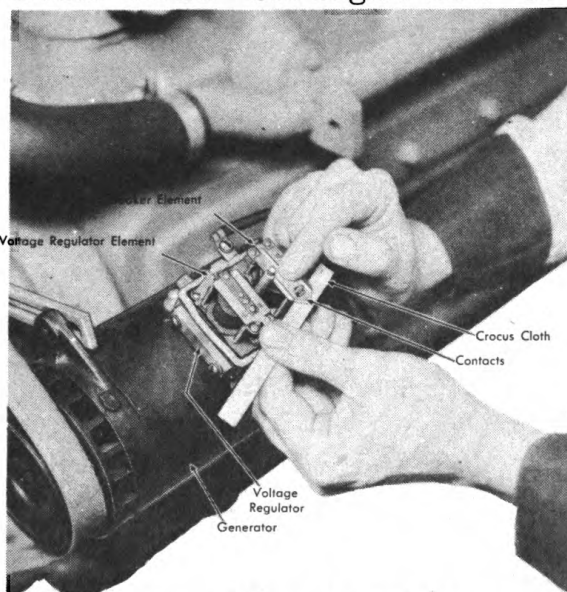

Figure 233. Cleaning Regulator Contacts with Crocus Cloth.
A. Remove the regulator cover and inspect the regulator visually for: (1) evidence of burning or abnormal high temperatures at the coils, contacts, insulation, external terminals, or any other point; (2) loose connections resulting from poor soldering; (3) loose nuts on the bottom of the magnet cores; (4) loose nuts and screws, (**NOTE:** All nuts and screws must have lock-washers); (5) broken or altered carbon resistor. Repair or replace any of the items mentioned above that may be faulty.
B. Inspect the contacts. If they are dirty or burned, they can be cleaned with a piece of crocus cloth. See Figure 233. Do not use sandpaper or a file. After cleaning, the contacts should be cleaned, if possible, with refined carbon tetrachloride, to remove any dirt or grease; after which a piece of clean linen tape or hard paper, such as kraft wrapping paper, should be pulled between the contacts to remove any fine lint or dirt.